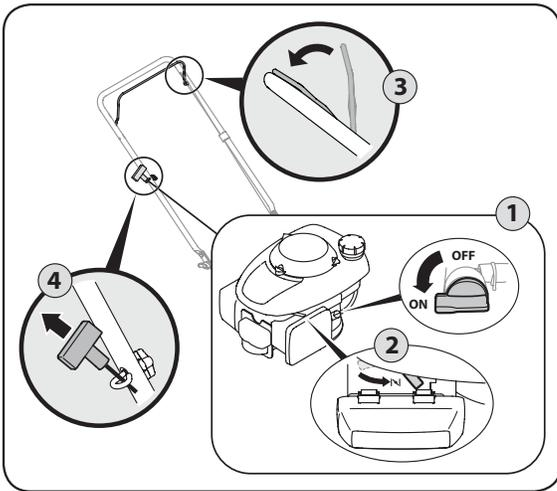

Figure 5-2
1. Place the fuel valve lever found on the left side of the engine into the ON (OPEN) position, Fig. 5-2.